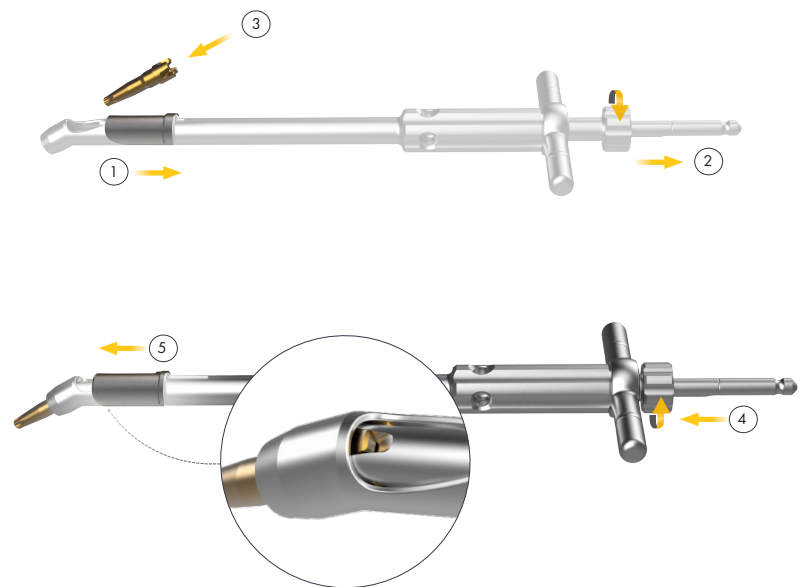

Fig. 24
Pull back protective shield. (See Fig. 24) (1)
Rotate thumb wheel on proximal end counter clockwise to move center shaft and pull the center shaft back. (See Fig. 24) (2)
Place the Hexalobular Driver Tip (113.7800 or 113.7801) or Drill Tip with Sleeve (113.7712, 113.7714, 113.7716 or 113.7718) in the tip of the driver. (See Fig. 24) (3)
Push inner shaft until it mates with the driver or drill tip and rotate thumb wheel on proximal end clockwise to lock center shaft. (See Fig. 24) (4)
Push protective shield to cover gear mechanism. (See Fig. 24) (5)